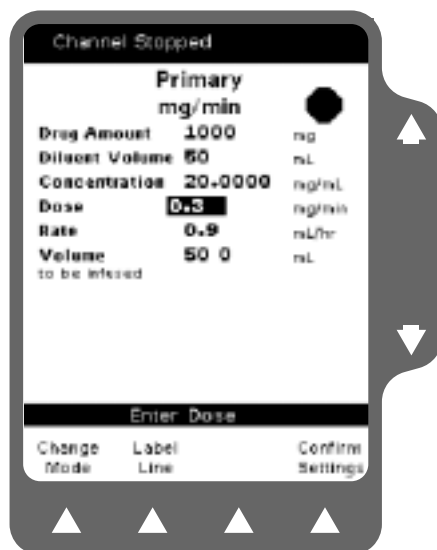

Figure 5-12 Enter the Dose
9. Enter the desired dose using the numeric keypad (Figure 5-12).
The **Confirm Settings** soft key is displayed when the calculated value is in range (Figure 5-12).